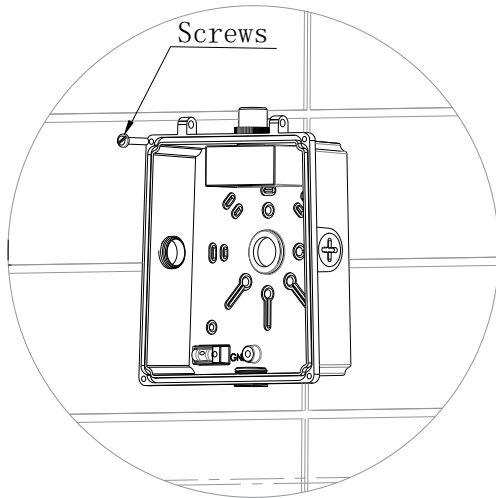

Fig. 1
1. Knock out appropriate slots. Secure housing to a sturdy wall. Check the gasket is fully sealed. (Fig 1)